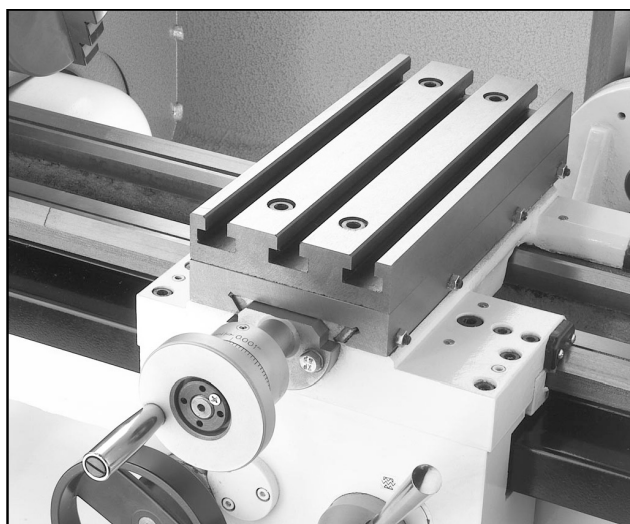

Figure 14. Mill table installed on cross slide.
4. Secure the milling table to the cross slide, using a 6 mm allen wrench with the table mounting cap screws. **Figure 14** shows the milling table installed on the cross slide.